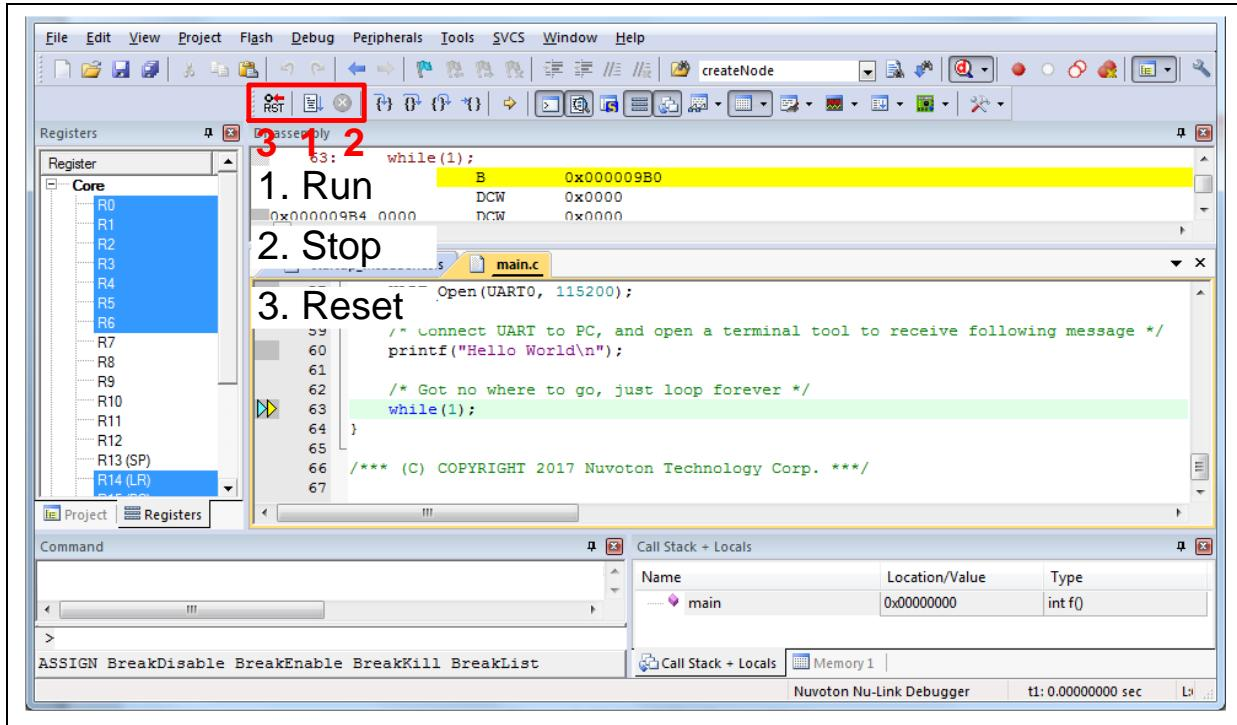

Figure 5-12 Keil MDK Debug Mode
5. Figure 5-12 shows the debug mode under Keil MDK. User can debug the project under debug mode by checking source code, assembly language, peripherals’ registers, and setting breakpoint,